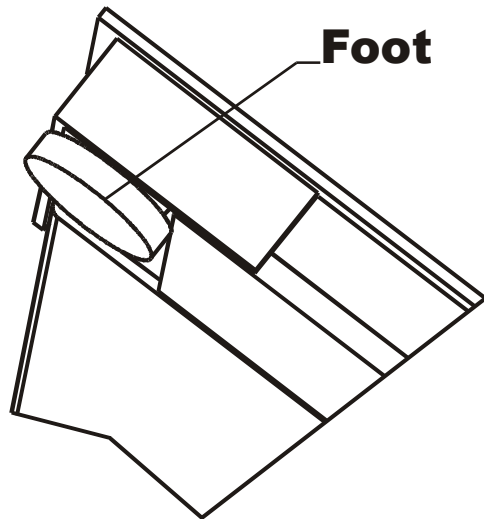

FIG. 11 ADJUSTING THE FEET FOR LEVEL
Step 4. Adjust each of the leveling feet in the direction (either up or down), indicated by the level readings. (See Fig. 11)